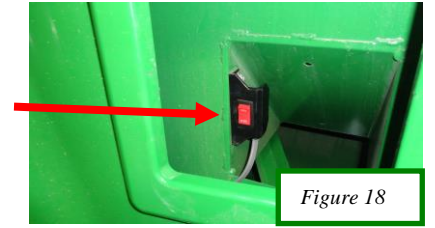

Figure 18
**Step 6: Electrical Installation** (See Figure 18 - 21)
Mount the switch bracket on the inside of the sample door with 1/4"x1" bolts and nylon lock nuts. (Figure 18)